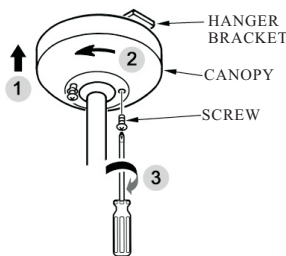

FIG.10
4. Mount the canopy on the hanger bracket and tighten the screws. (See fig.10)